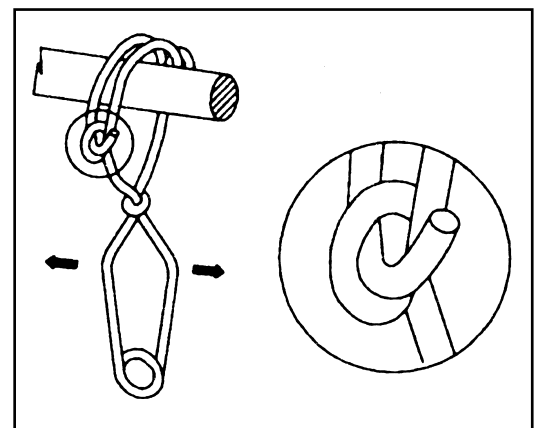

Fig. 2
5. Make sure that the Anchor Hook is closed completely. The hook must close as shown in figure 2. If the Anchor Hook will not close, you should use a larger Anchor Hook.
6.5 Check operation of hook by opening and closing. Make sure that hook closes completely when hand grip is released. (See Figure 2)